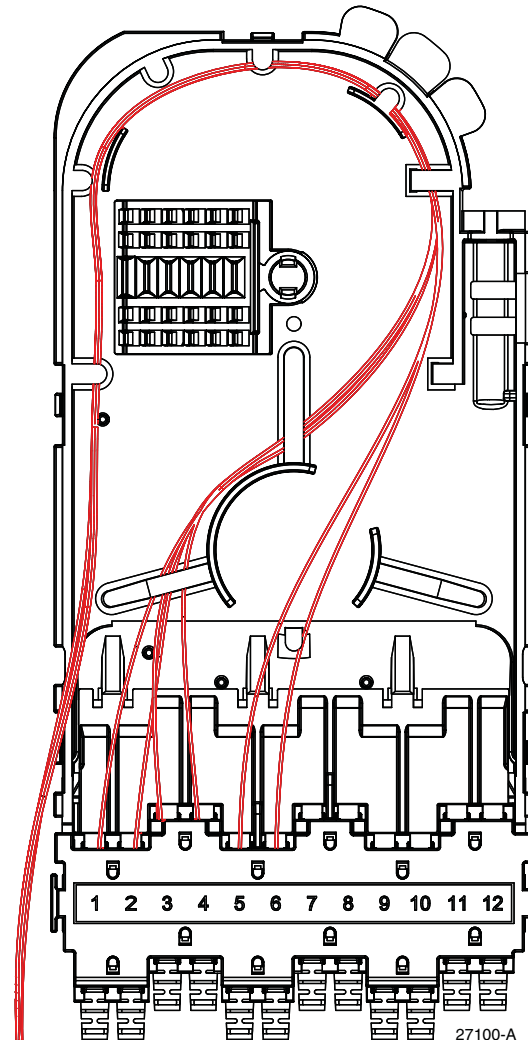

Figure 10. Schematic (Engineering Model)
10. Install remaining fibers following routing paths shown in Figure 10.